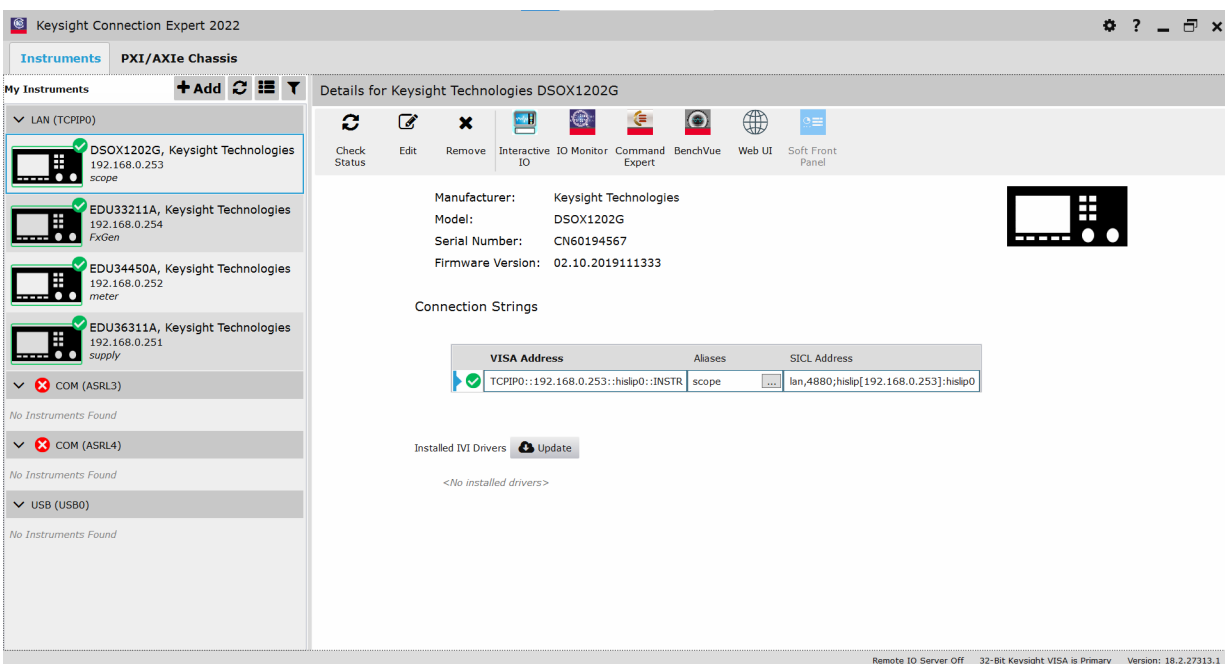

Figure 3: Keysight Connection Expert: four instruments
3. You should see four instruments in the new window that pops up, as shown in Figure 3. Check the boxes next to each instrument and click the **Okay** button.